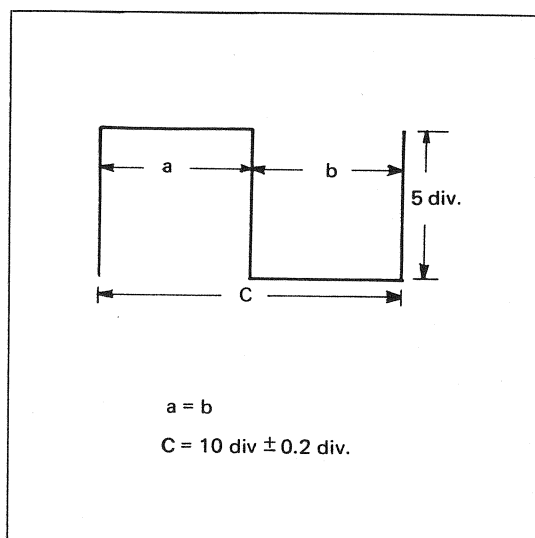

Fig. 10
2. Adjust TC301 to duplicate the conditions shown in Fig. 10.